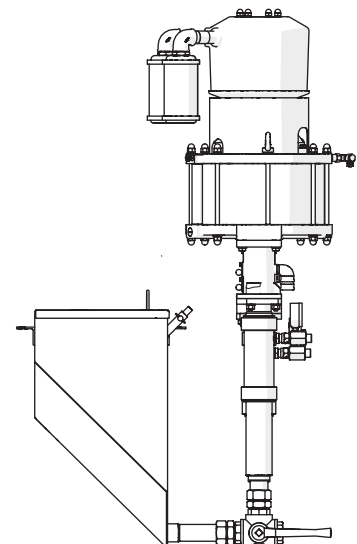

Fig. 36: Material supply with feed tank
- from feed tanks (see Fig. 36),